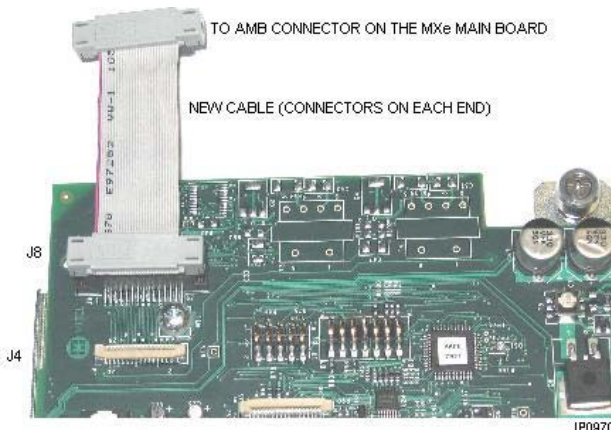

Figure 41: AMB with new cable for MXe Controller
1. Remove the narrow flex cable on the AMB (J4) by flipping up the clip on the connectors at each end of the cable (prior to Rel 7.1 version) or remove the ribbon cable on the AMB (J8) (see Figure 41).